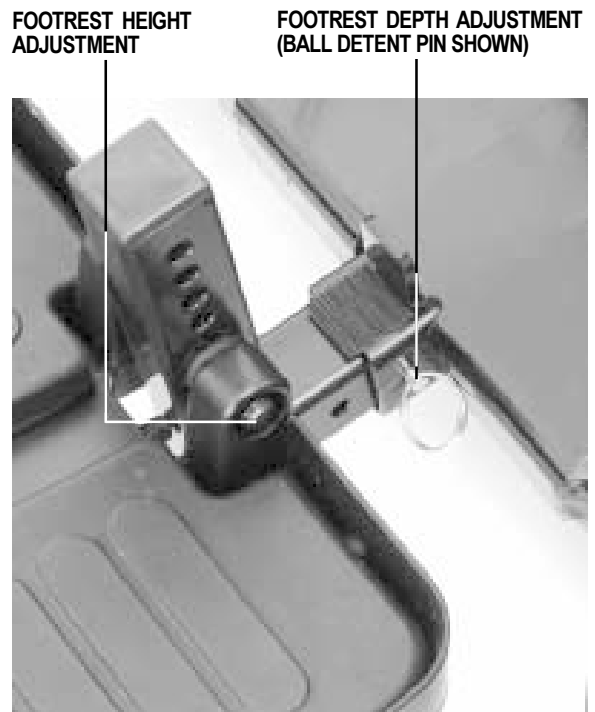

Figure 12. Footrest Adjustment
1. Use a hex key to remove the bolt, spacers, and nut from the footrest. See figure 12.